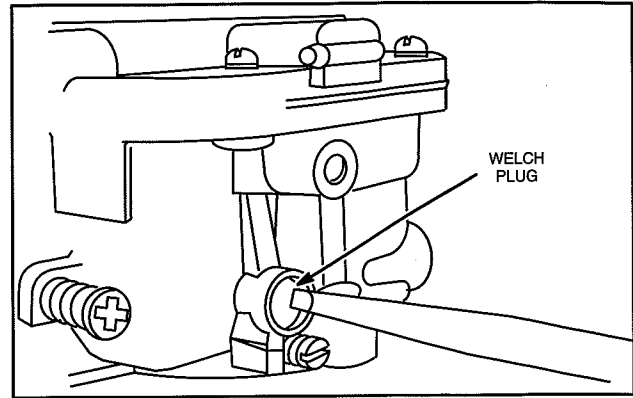

Fig. 85 – Remove Welch Plug
11. Remove transitional hole welch plug with a punch as shown, Fig. 85.